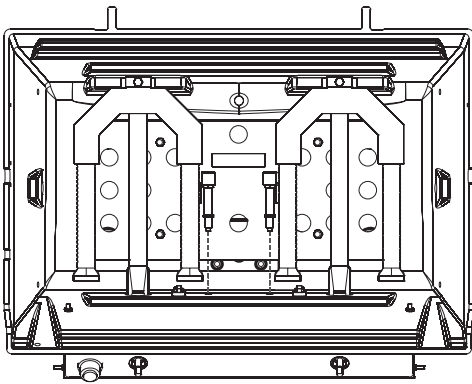

Figure 6
- Insert collector box assemblies into holes adjacent to burners. The opening of the collector box should be facing the burner. See Figure 6.